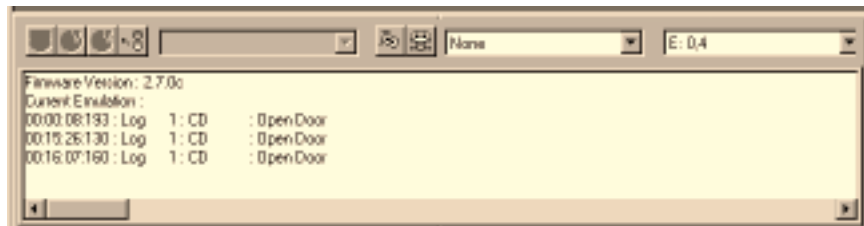

Figure 7.4 *The Control & Log window*
1. Highlight Track 3 in Session 2 in the tree structure shown in Figure 7.4.
- 16) Locate the four icons in the task bar of the `Control & Log` window, which appears in the bottom part of the GDWorkshop window (Figure 7.4). The rightmost icon in the `Control & Log` window's task bar (the one made up of two circles and a line) shows a switch that can point to either one of two circles: a yellow circle, which represents a disk, and a gray circle, which represents emulation mode. Point the switch up - away from the yellow circle and toward the emulation mode circle - as shown in the illustration.